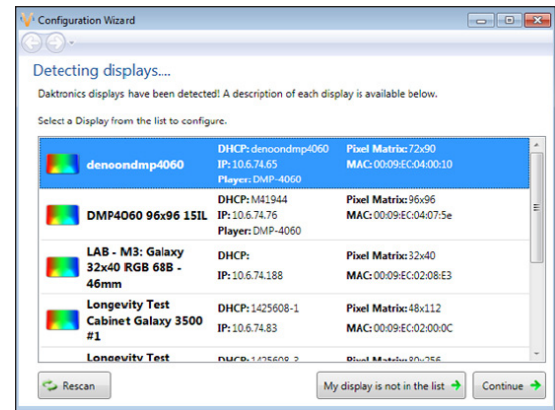

Figure 20: List of Displays
4. Select the desired display to configure and click **Continue**. Refer to **Figure 20**.